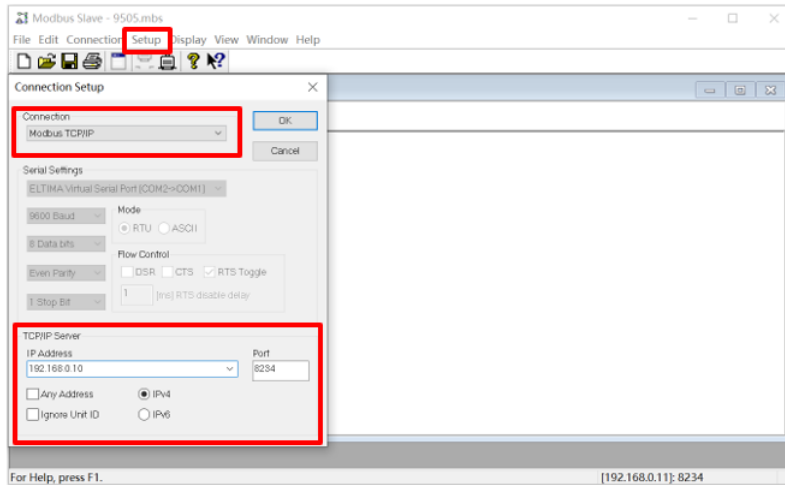

Figure. 13
- Access PowerPACK Pro-5 using Modbus Slave software (here used **Modbus Save** as an example). As shown in figure 13, enter the IP address and Port number of the computer.